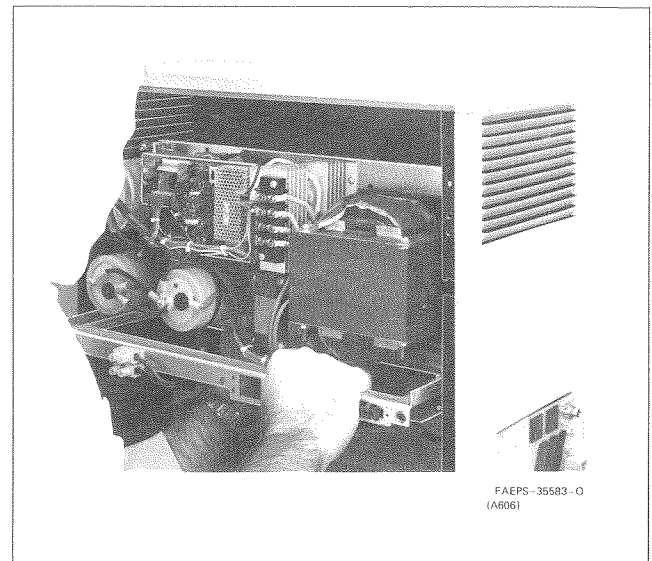

Figure 4. Properly Gripped Chassis
Step 4. Grip the chassis with **BOTH** hands, as shown in Figure 4. Find a comfortable grip around the flat-topped parts of the metal. Adjacent parts have sharp edges.
Note wrist position in Figure 4.
Step 6. Reach under the bottom of the chassis with your left hand, to balance the heavy chassis on the cabinet. Press the chassis firmly against the rails, or else it may suddenly slide out of the cabinet. See Figure 4.